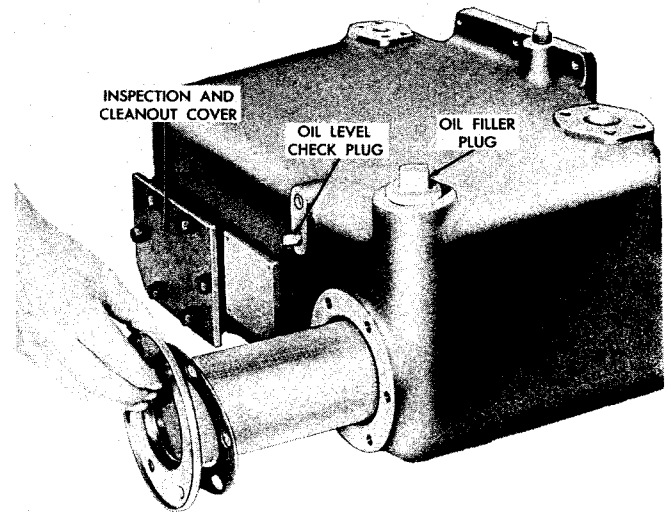

Fig XIII-6. Removing or installing oil strainer assembly
move the oil strainer assembly (fig XIII-6).
(2) Remove the bolts that secure the inspection and cleanout cover to the oil sump. Remove the cover (fig XIII-6).
(3) Remove the oil filler plug, oil level check plugs, and the sump drain plug.
(1) Install the filler plug, the sump drain plug, and the oil level check plugs.
(2) Install the inspection and cleanout cover (fig XIII-6). Install the cover bolts.
(3) Install the oil strainer assembly (fig XIII-6). Install the oil strainer bolts.